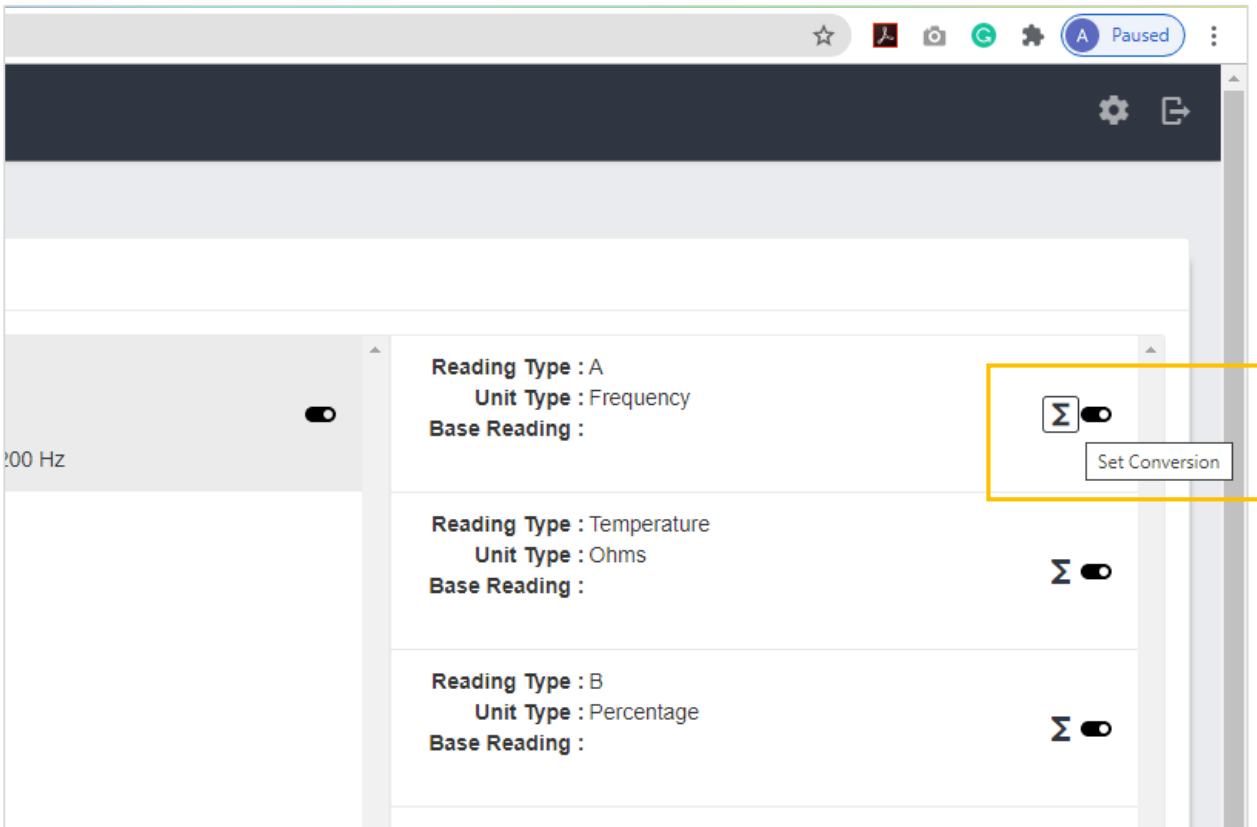

Figure 3-30
- Click on Σ symbol to add/edit coefficients and gage factor. In the example given below, Σ symbol has been selected for a vibrating wire sensor. (Refer to figure 3-30)